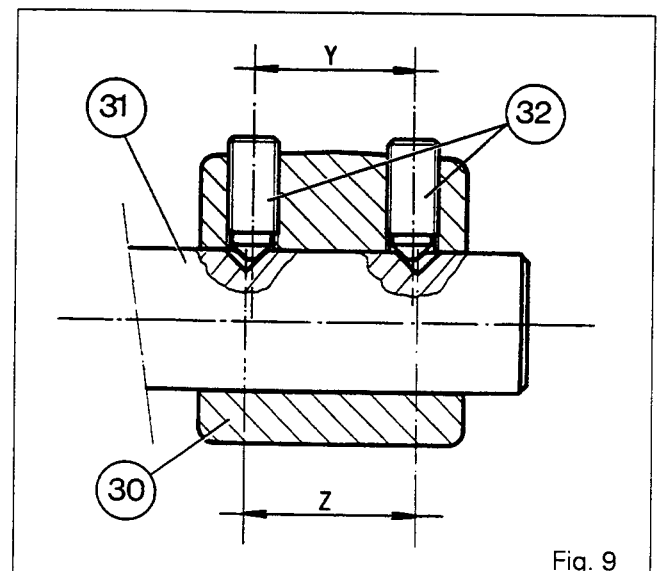

Fig. 9
The positioning of the fork (30) is determined by the difference between the distance Y between the holes and the distance Z between the indents on the selector rail (31). The movement of the fork is changed by acting on either the front or rear screw (32) according to the adjustment required (Fig. 9).